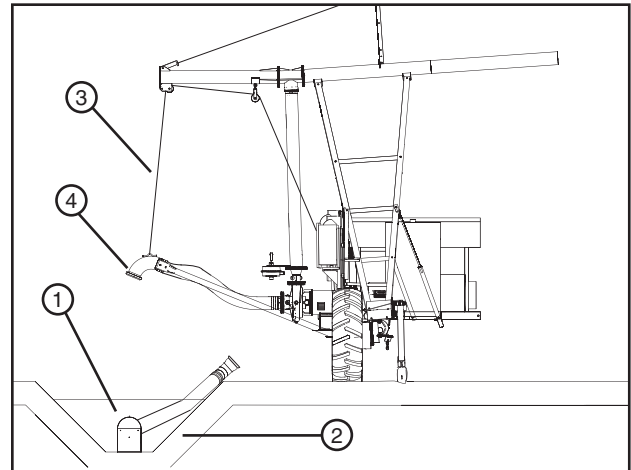

Figure 77-1 1. Suction Inlet 2. Ditch 3. Lift Cable 4. Elbow
1. Raise the suction inlet out of the ditch using the lift cable, high enough to clear obstructions, then disconnect the inlet tube at elbow as shown in figure 77-1. To prevent damage during swing around move machine away from the ditch so that the wheels will not fall in the ditch.